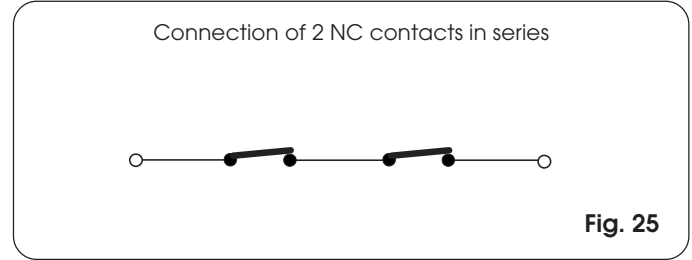

Fig. 25
**N.B.:** If two devices with N.C. contact have the same function, they must be connected to each other in series (Fig. 25).